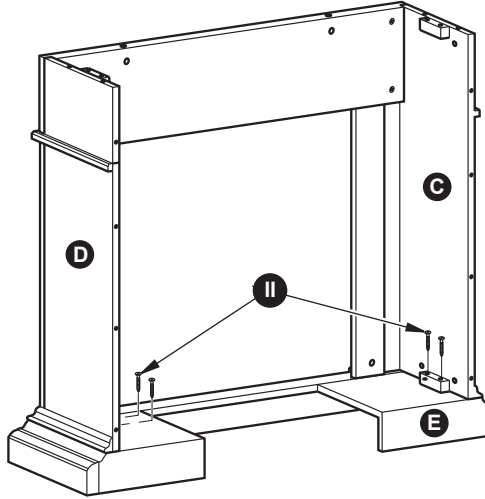

Figure 31
3. Fasten the wood support brackets attached to the Left Side (C) and Right Side (D) Panels with 4) ST4Screw 1 $\frac{9}{16}$ " (II) to the Base (E) as shown in Figure 31.